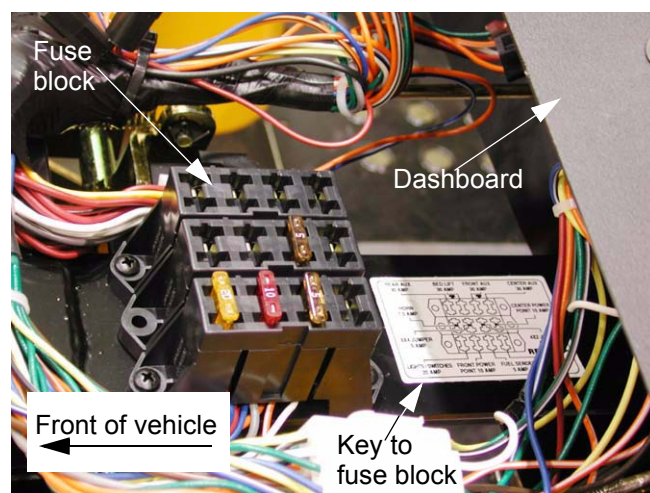

Figure 3.6
- 3.6. The fuse block has been moved to the horizontal surface at the top of the firewall on the driver's side of the vehicle. See Figure 3.6.